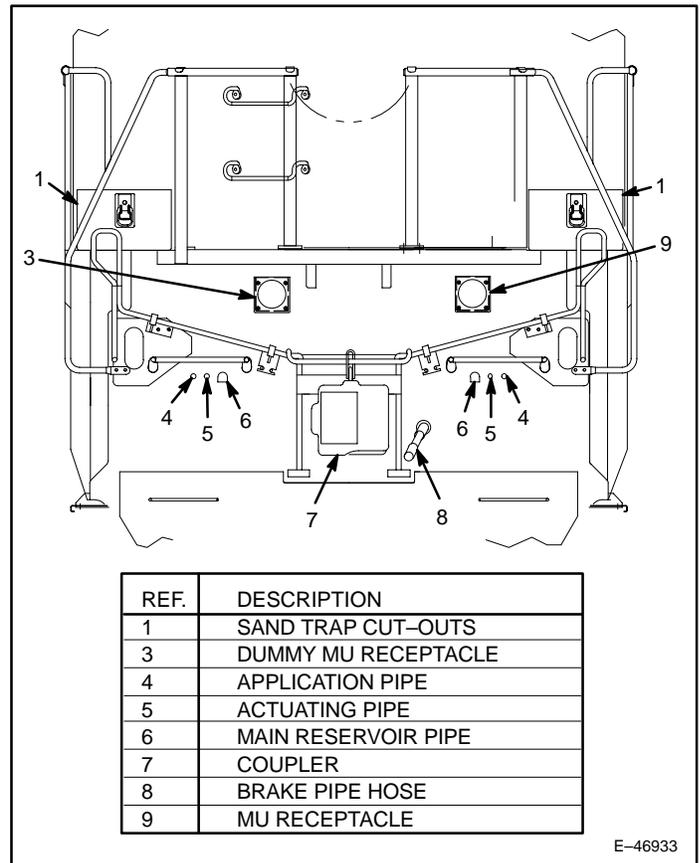
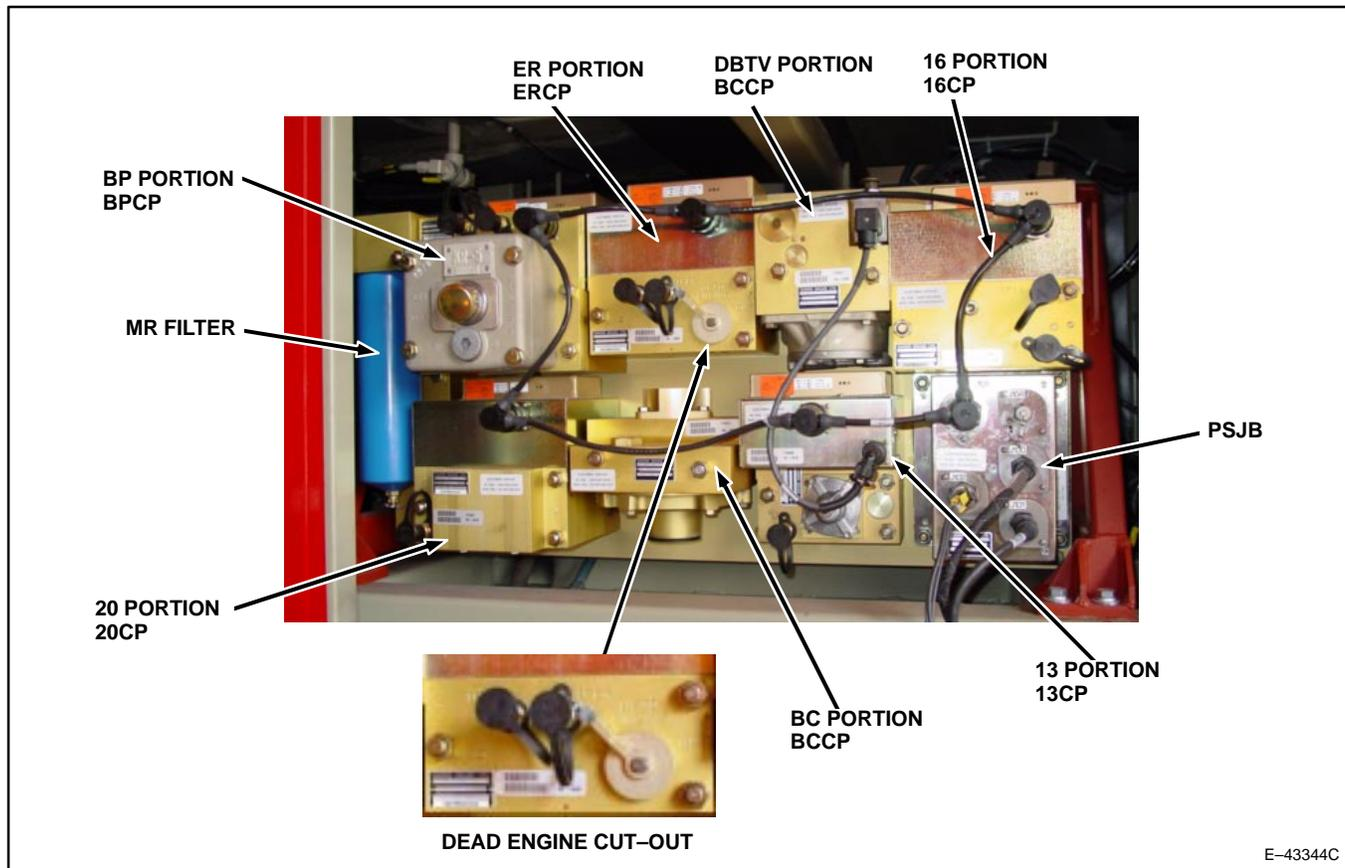

Figure 15. Air Brake End Connections.
Figure 16. Electro-Pneumatic Control Unit (EPCU) Component Location.
7. Cut-Out Cocks and End Connections in each end of locomotive (Figure 15):
- a. Brake Pipe cocks (BP).
- b. Main Reservoir Equalizing (MR).
8. Dead Engine cock – Located in air brake compartment on the Electro Pneumatic Control Unit (Figure 16).